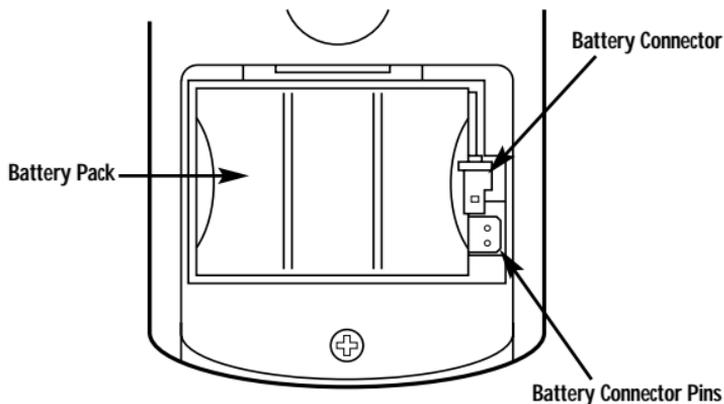

Figure 2-4. Connecting the battery pack.
2. Carefully push the battery pack connector onto the connector pins inside the battery compartment (see Figure 2-4).